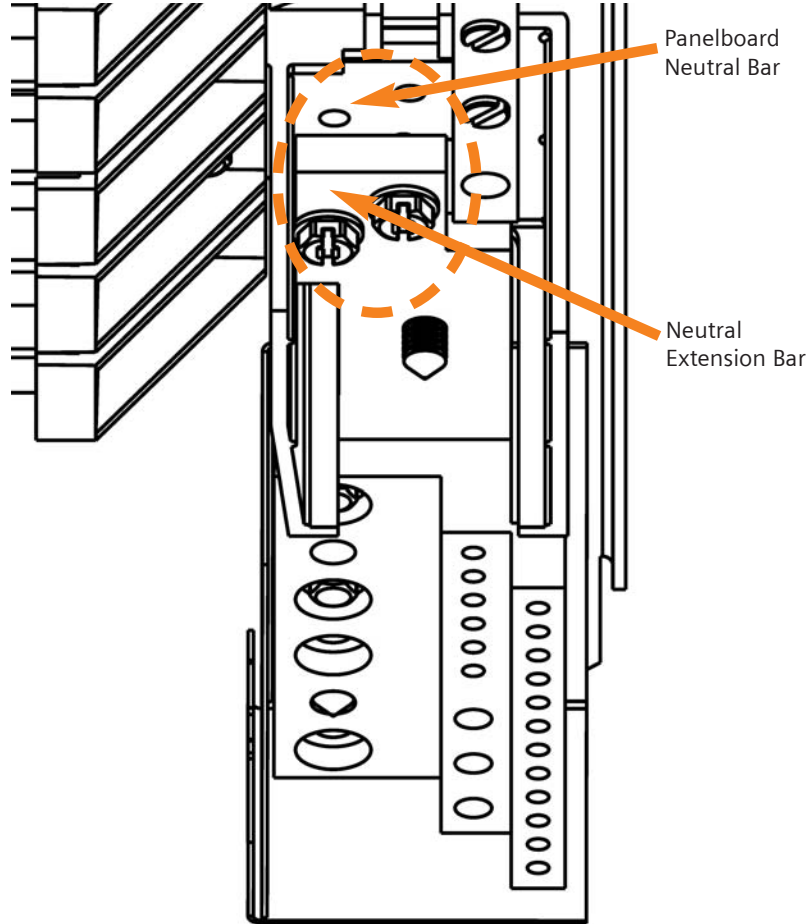

Figure 6.17
4. Align the mounting holes of the neutral extension to the holes of the neutral bar as shown in figure 6.17.